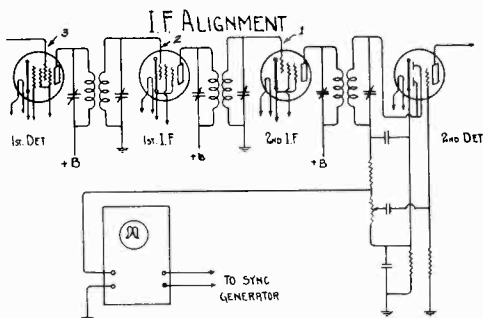

Figure 11—Connections of Oscillograph
- (1)—Feed the sweeping input of proper frequency into the grid of the last i-f tube shown at point 1 on the Figure 11 and align the last i-f transformer. The detailed method of alignment follows in connection with another diagram.
- (2)—Shift the receiver tuning condenser to see that the curve is not affected by signals generated or picked